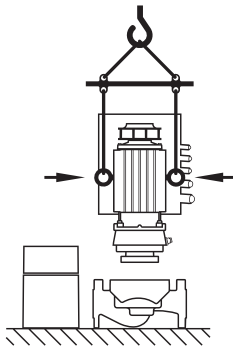

Fig. 9: Transporting the motor
- If necessary, e.g. in case of repairs, the transport eyes can be moved from the motor flange to the motor housing (see e.g. Fig. 9). Before installing the transport eyes at the motor housing, unscrew the spacers from the openings for the transport eyes (Fig. 7, Item 20b) (see chapter 10.2.1 "Replacing the mechanical seal" on page 113).
- If the transport eyes have been moved from the motor flange and installed at the motor housing, then they are only approved for carrying or transporting the motor impeller unit (Fig. 9) and not for transport of the whole pump and not for separation of the motor impeller unit from the pump housing.